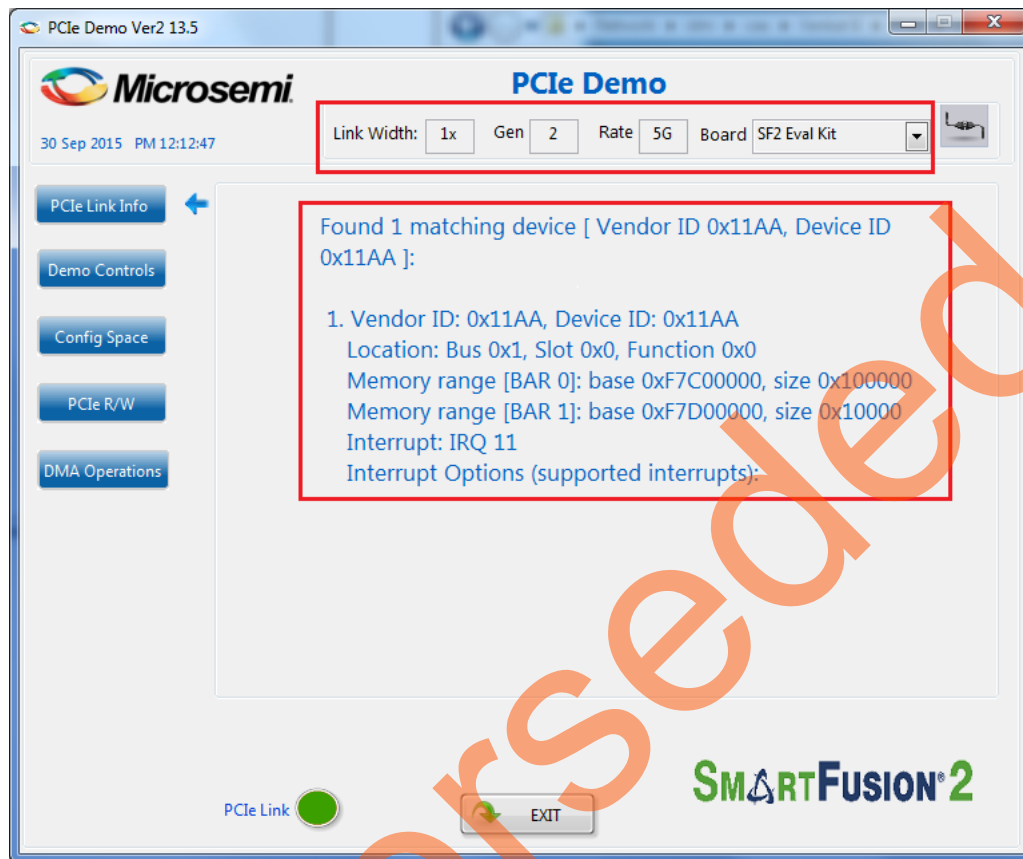

Figure 15 • Version Information
- Click the **Connect** button at top right corner (highlighted below) of the GUI. The messages are displayed on the GUI as shown in Figure 15.